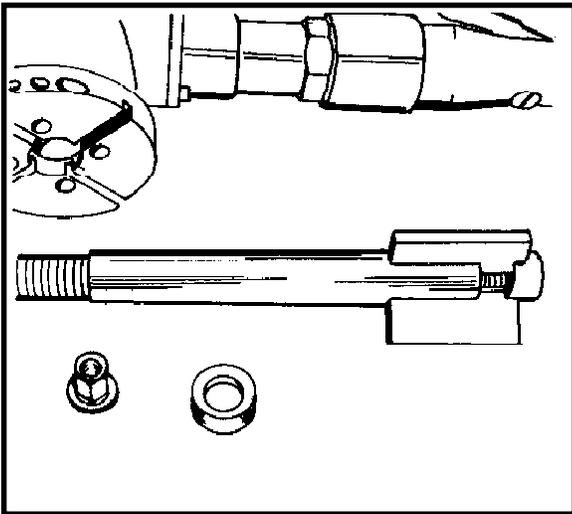

Figure 12
1. Remove the Collar Nut (PN 16-019-00) and Drawbar Nut (PN 16-018-00) from the end of the Mandrel Shaft (Figure 12).